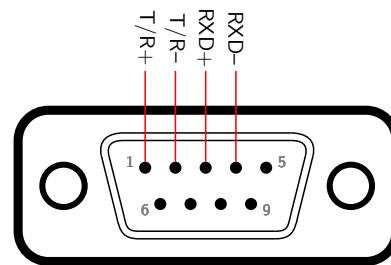

Figure 4.3: DB-9 female connector (solder side).2
1. Solder the pins on the female DB-9 connector as shown in Figure 4.3. Note that the pin numbers shown in the diagram are for the solder side of the connector.